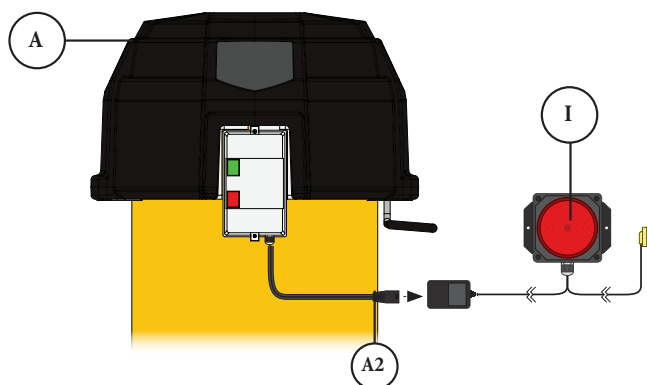

FIG. 22
Connect the Dust Sentry's power adapter (I) to the Dust Sentry Cord (A2) on the Motor Assembly's (A) magnetic starter [FIG. 22]. The Dust Sentry's strobe light (I) should be mounted in a highly visible area using adhesive strips or the two mounting holes.